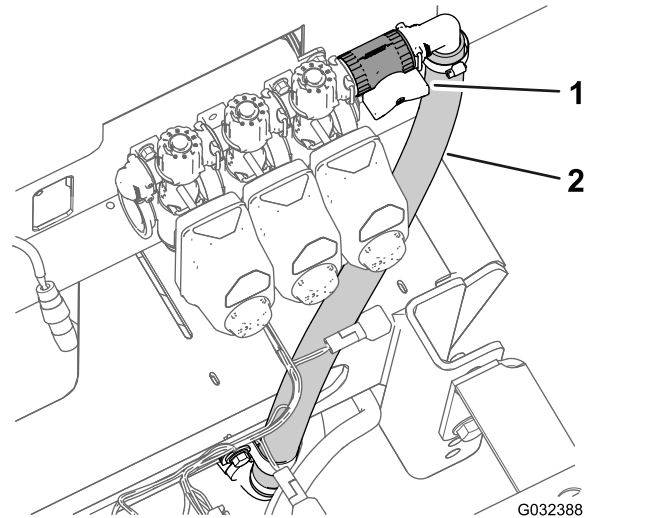
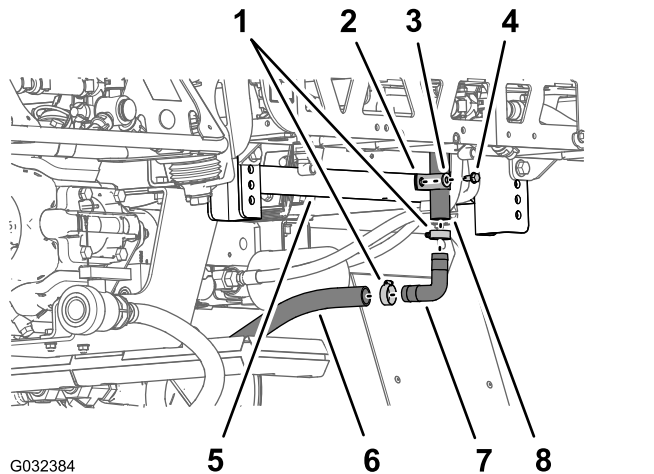

Figure 50
Figure 51
- At the lower end of the upper bypass hose, remove the flange-head bolt (5/16 x 3/4 inch), washer (5/16 inch), and R-clamp that secures the upper bypass hose to the rear saddle plate of the machine (Figure 50 and Figure 51).
- Remove the 2 hose clamps that secure the upper bypass hose and the lower bypass hose to the 90° barbed fitting (Figure 51).
- Remove the 90° barbed fitting from the hoses (Figure 51).
- Remove the T-fitting from the drain-valve hose and the rear tank-drain hose (Figure 51).